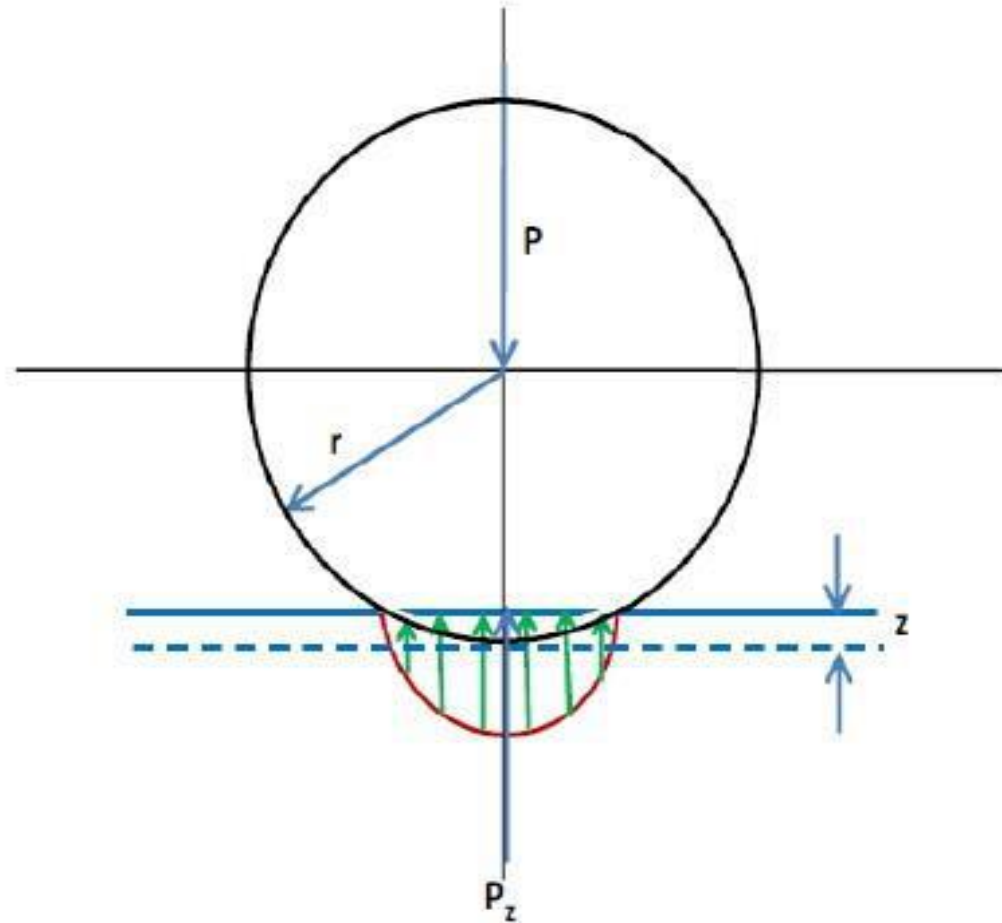

Figure 2: Pressure distribution in contact area
- In **Figure 2** a tire at standstill is shown.